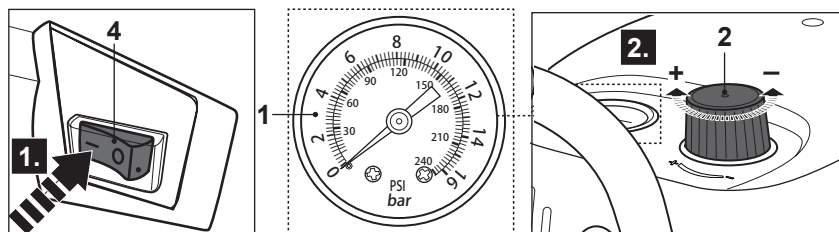

Fig. 8
- > Wait until the product stops (approximately 2.5 minutes), then turn the pressure regulator (2) clockwise to set the pressure according to the attachment tool technical specifications (Fig. 8, step 2). Ensure the setting is correct by reading the set pressure on the pressure gauge (1).